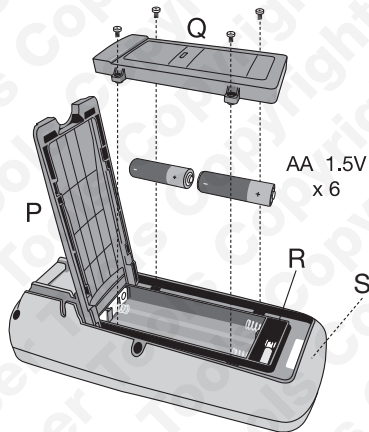

Figure 2
1. Refer to **Figure 2**: Remove the battery cover (**Q**) (4 screws) and the batteries.